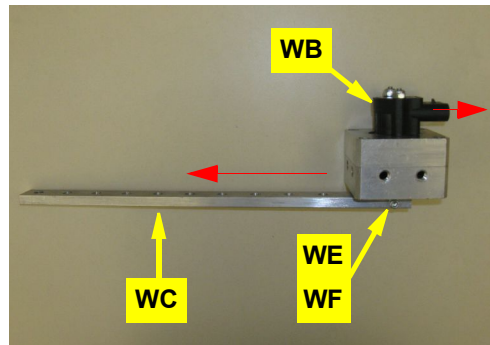

Figure 1c: Attached WAS arm
- Using hardware **WE** (nut) and **WF** (screw), attach the cut WAS arm **WC** to the WAS assembly. The arm should be mounted in the opposite direction to the WAS wire connector **WB** (Figure 1c).